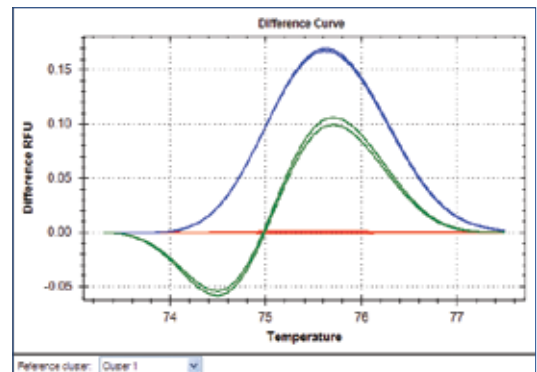

Fig. 8. Difference Curve pane.
3. For easy visual identification of clusters, Precision Melt Analysis software generates a difference curve for each well (Figure 8). The Difference Curve chart shows the difference in fluorescence between a well and the fluorescence of a reference curve.